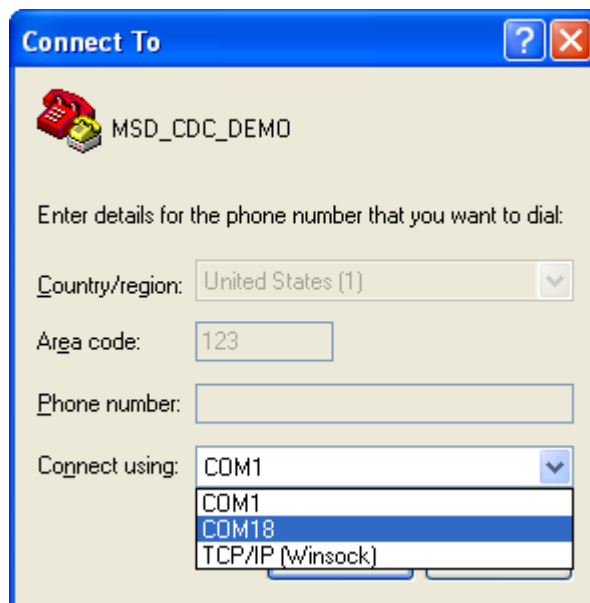

Figure K-25. Choose Com port
Step 3. Then choose port to connect. In this application, the com is COM18 (Figure K-25).